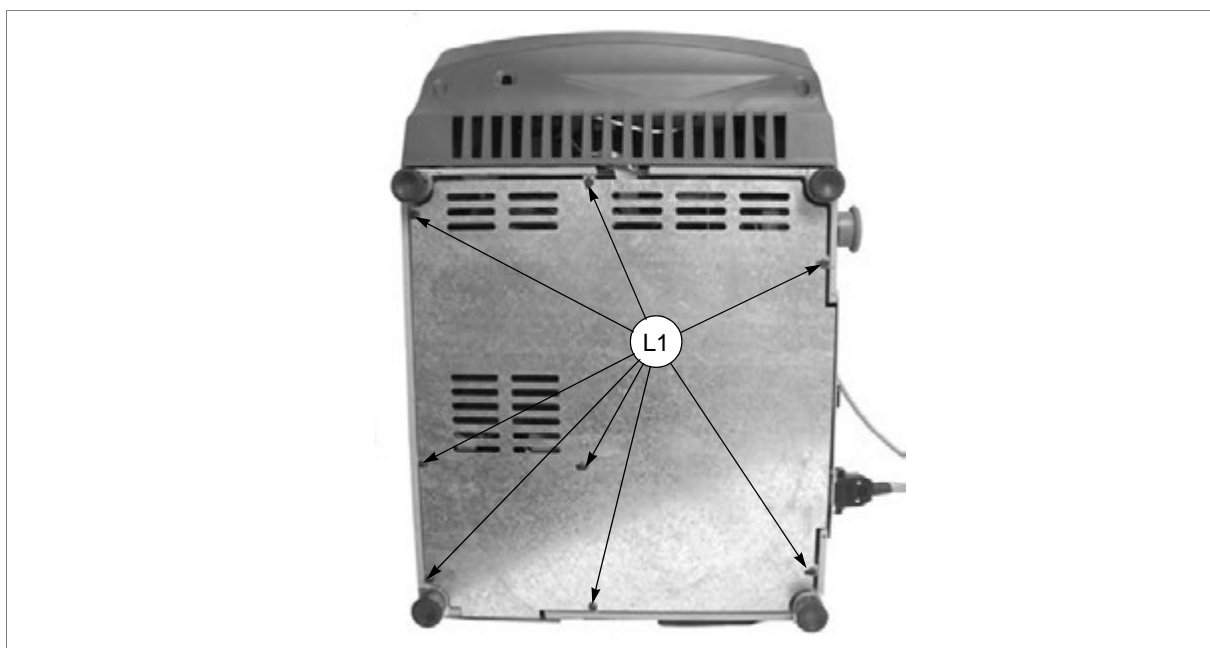

Fig. 76
- 3) remove the bottom plate by loosening the 8 fixing screws (L1) (fig. 76).